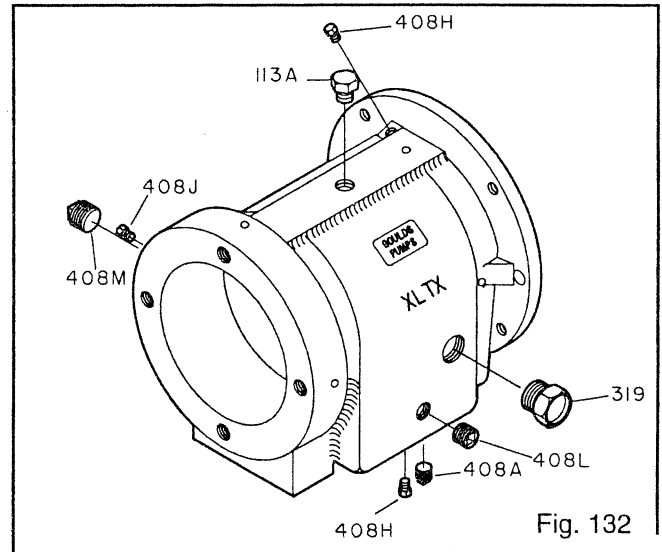

Fig. 132
1. Install the oil fill plug (113A), oil drain plug (408A), sight window (319), sight oiler plug (408J), four oil mist connection plugs (408H), or grease fittings (193) and grease relief plugs (113), and oil cooler inlet and outlet plugs (408L, 408M) in bearing frame (228) (Fig. 132).